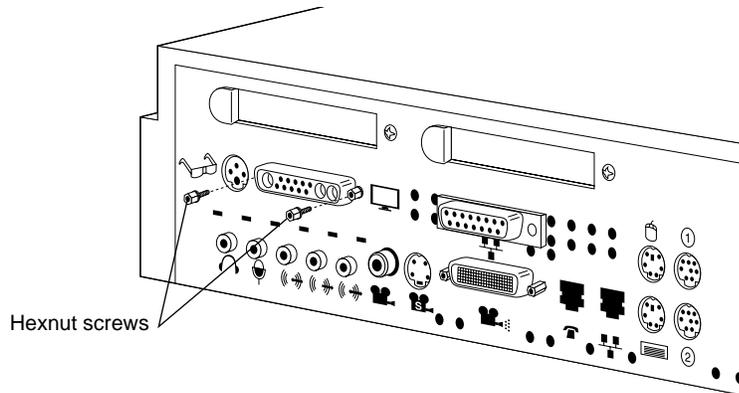

Figure 2-1 Removing the Hexnut Screws From the Rear Panel
1. Use the open-ended wrench to unscrew the two hexnuts screws on either side of the graphics board's I/O connector on the rear of the workstation. (See Figure 2-1.) The wrench is provided with this kit.